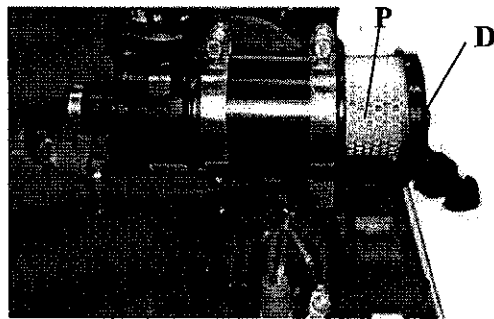

Fig. 15
- Pull out the oil dip stick "MS" and wipe off with a lint-free cloth (Fig. 15).
- After inserting the cleaned or new filter cartridge, mount the sealing cover " D ". (Fig. 15)